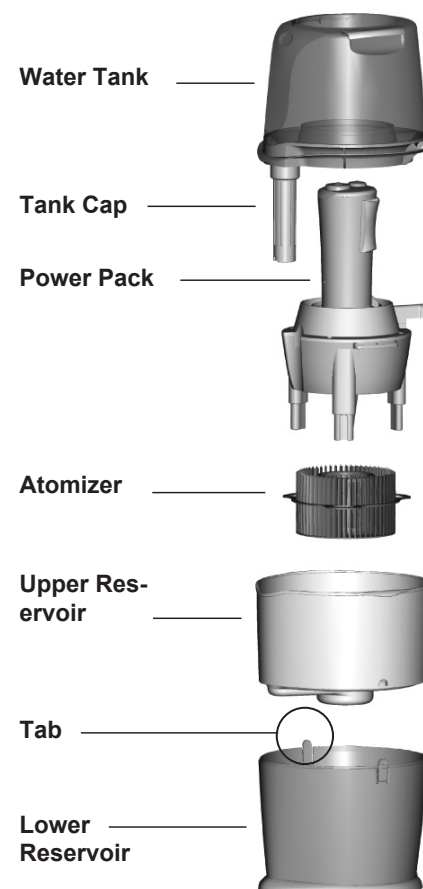

Figure 16
- Attach the Upper Reservoir to the Lower Reservoir by engaging the two tabs on the sides. See Figure 16.